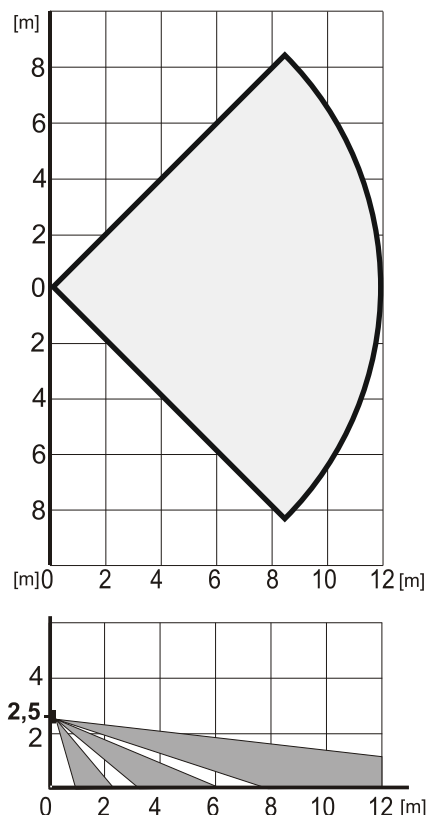

Figure 3. This detection characteristic is valid for standard PIR immunity.
The detector is fitted with a lens (2) covering an area of 90°/12 m with 3 beams (curtains) – see figure 3. **The lens cannot be replaced by a different type of lens.** This detection characteristic is the same for both the white and the grey lens.